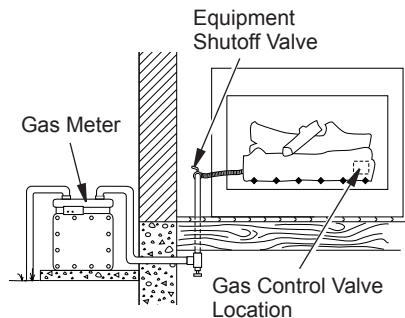

Figure 17 - Checking Gas Joints (Natural Gas Only)
1. Open equipment shutoff valve (see Figure 17).